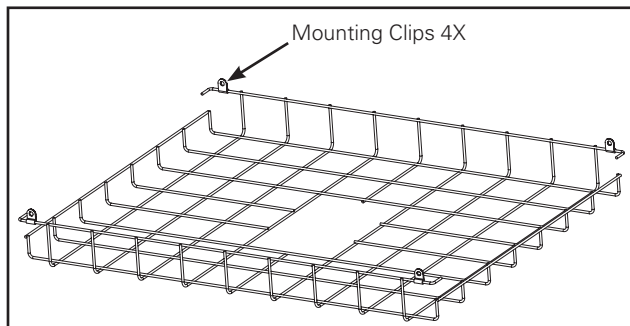

Figure 1.
1. Install the 4 wire guard mounting clips to each corner of the guard as shown in (Figure 1.)